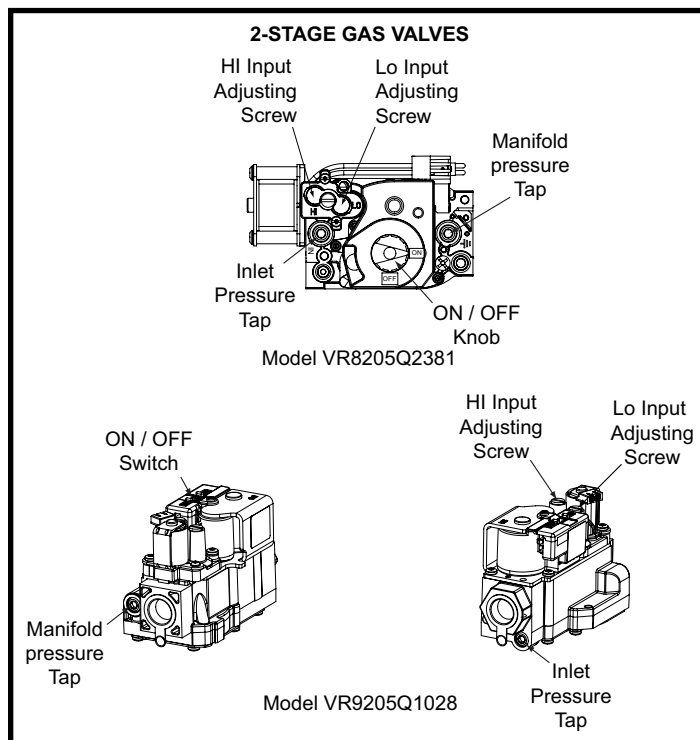

Figure 8. HI & LO Input Adjusting Screws
2. Remove the regulator cap. Turn the high fire adjusting screw clockwise to increase the pressure or counterclockwise to reduce the pressure. See Figure 8 for adjusting screw locations.